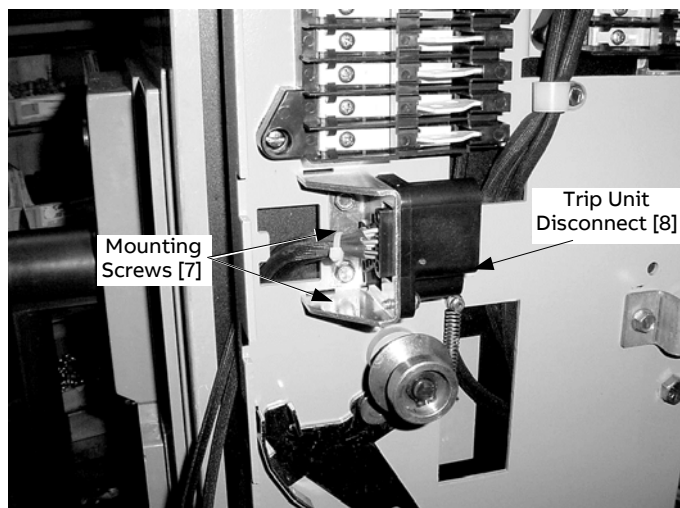

Figure 23. New trip unit disconnect [8] installed on the side plate of a 2500–4000 A breaker.
23. Install the new trip unit disconnect plug [8] on the breaker side plate with the two thread-forming screws[7] supplied, as shown Figure 23. Run the wires through the hole in the plate to the terminal board.